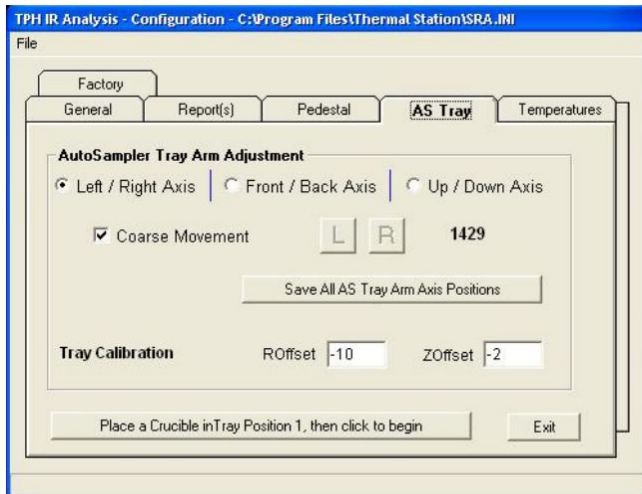

Figure 32. AS Tray Tab.
1. Click Configuration on the Main Menu and select the **AS Tray** tab (Figure 32).